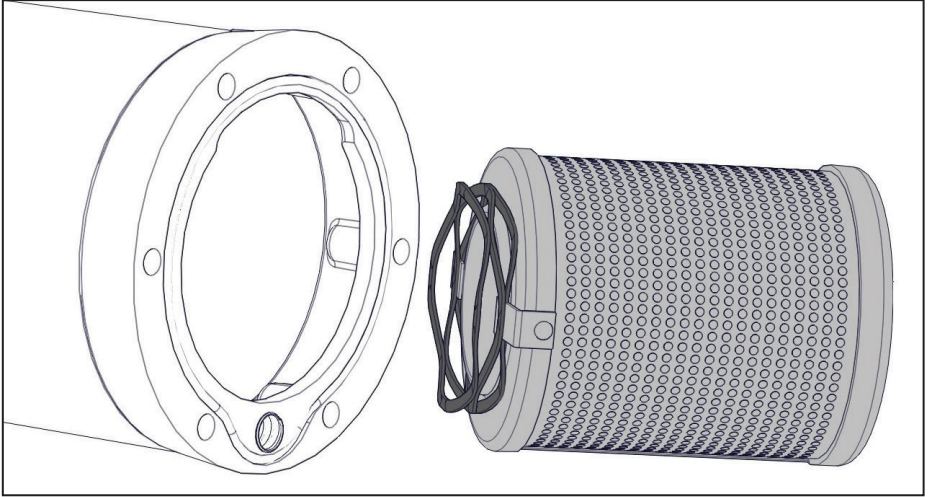

Figure 35 — Install wave spring
- Install the coalescing element into the AOST (Figure 35).